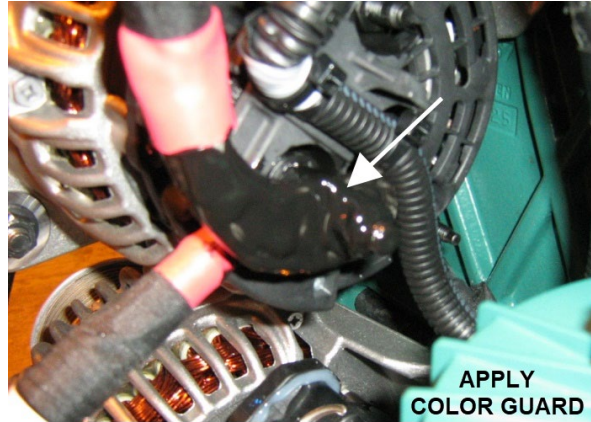

Figure 7: Color guard re-application
6. Re-apply color guard to the stud and terminal (Figure 7).